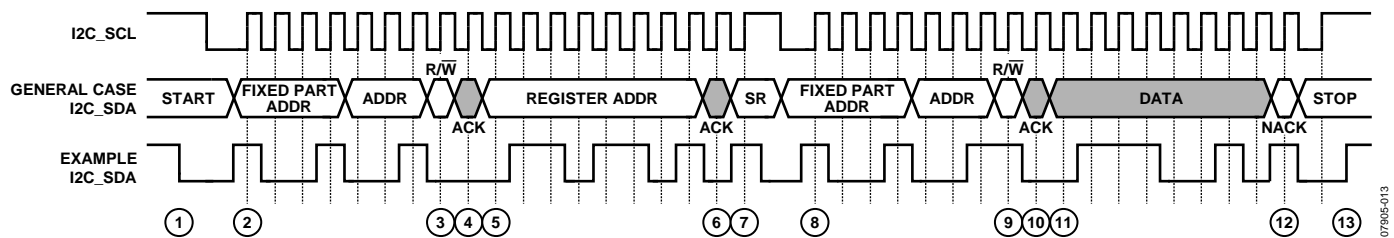

Figure 33. I²C Read Procedure
To read data from the ADV3002 register set, an I²C master (such as a microcontroller) needs to send the appropriate control signals to the ADV3002 slave device. The signals are controlled by the I²C master unless otherwise specified. For a diagram of the procedure, see Figure 33. The steps for a read procedure are as follows:
3. Send the write indicator bit (0).
7. Send a repeated start condition (SR) by holding the I2C_SCL line high and pulling the I2C_SDA line low.
9. Send the read indicator bit (1).
- a. Send a no acknowledge (NACK) followed by a stop condition (while holding the I2C_SCL line high and pulling the SDA line high) and release control of the bus to end the transaction (shown in Figure 33).